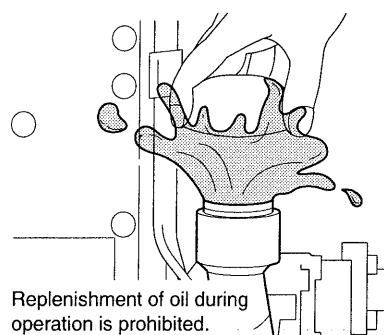

Fig. 4
* *Oil shall be scattered if it is replenished during operation. Replenish oil always when the compressor is in stop. (Fig. 4)*